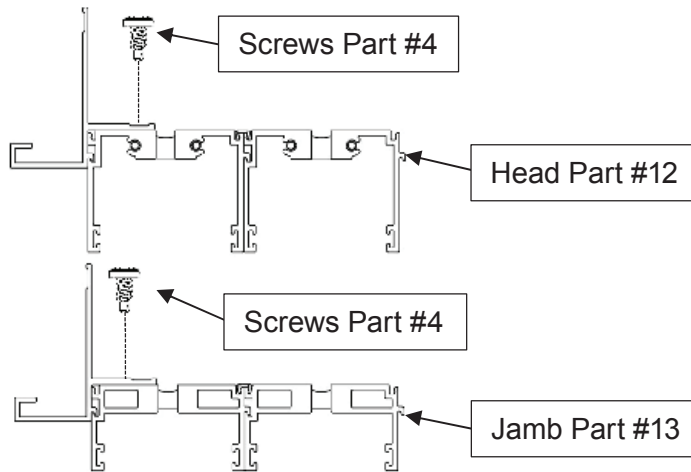

FIGURE 1
6. Prepare rough opening by checking diagonal dimension of opening to verify square and apply water resistant barrier as shown in Figure 1. Use steps A through D for applying water resistant barrier.